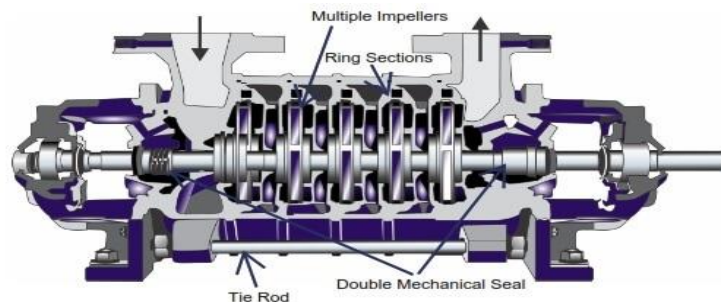

Fig. 12: Multistage centrifugal pump apparatus.
13.1 Evaluate the operational efficiency and characteristics of a multistage centrifugal pump, considering different flow rates i.e., partial, half, three-fourth and full operating head in fig.12
13.2 Calculate the overall efficiency of multistage centrifugal pump. The testing apparatus are shown in fig. 12.